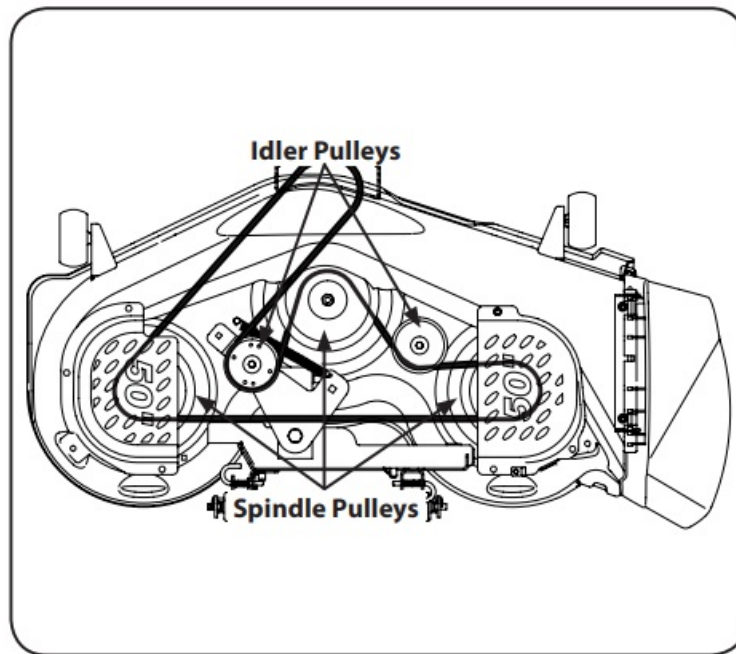

Figure 7-5
5. Route the deck belt around the spindle pulleys and idler pulleys as shown in Fig. 7-5.